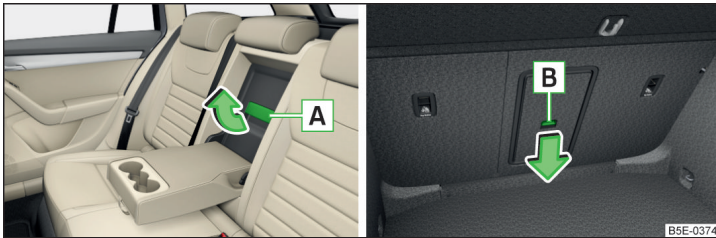

Fig. 81 **Open the cover: From the interior / from the luggage compartment**
- Pull the handle **A** in the direction of the arrow » Fig. 81 and fold the cover forwards.
- Push the unlock button **B** in the direction of the arrow » Fig. 81 and fold the cover including the armrest forwards.
Ensure that the armrest is always locked into place after closing the cover. This is apparent as the red field above the unlocking button **B** » Fig. 81 is not visible from the boot.